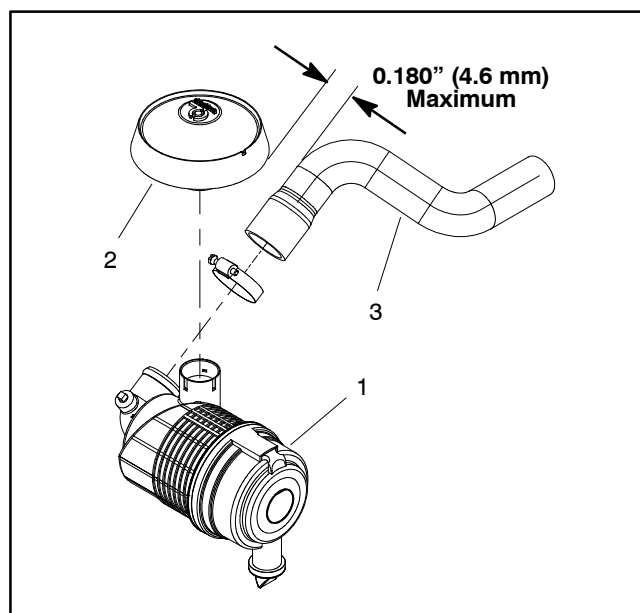

Figure 5
- C. Make sure that clearance between air intake hose and air inlet hood is less than **0.180" (4.6 mm)** (Fig. 5). If this clearance is excessive, the intake hose may contact secondary clutch during suspension movement. Rotate intake hose to modify clearance as needed.